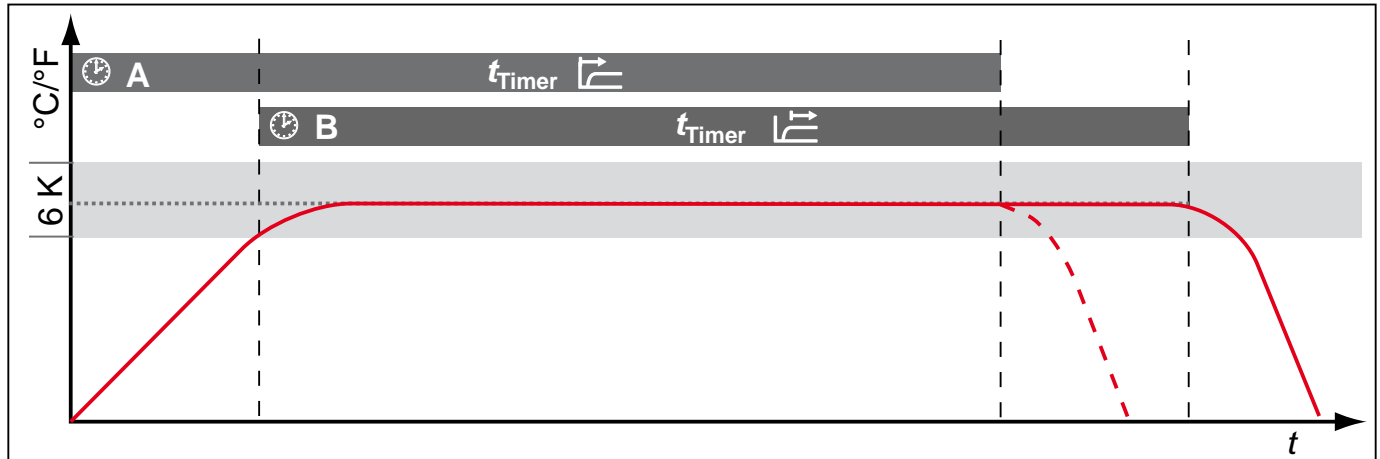

Fig. 34 Timer mode
Here, you can choose whether the digital backwards counter with target time setting (see page 34, timer) should be setpoint-dependent or not – this determines whether the timer should not start until a tolerance band of ± 3 K around the set temperature is reached (Fig. 34, B) or whether it should start immediately after activation (A).